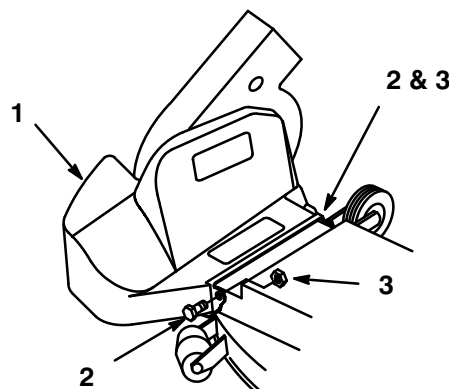

Figure 32
1. Remove the blower belt cover by removing (2) lock nuts and bolts (Fig. 32).